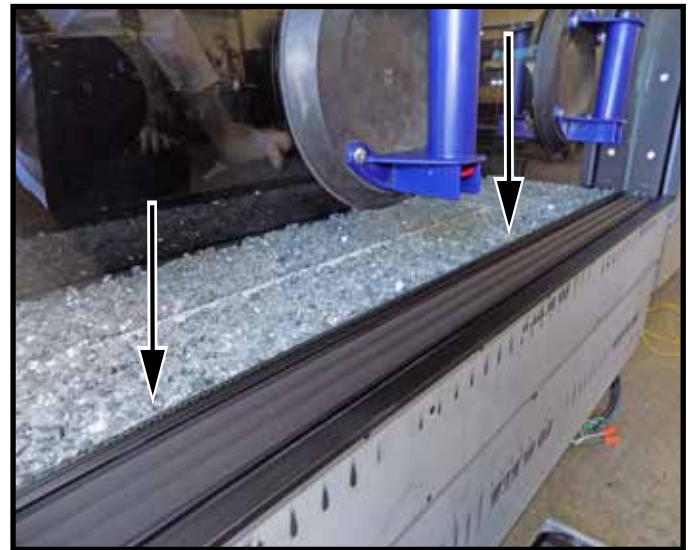

Figure 42: Lower the inside front plate into its slot.
6. Lower the inside front glass plate down into its lower slot (Figure 42). Center this glass plate.